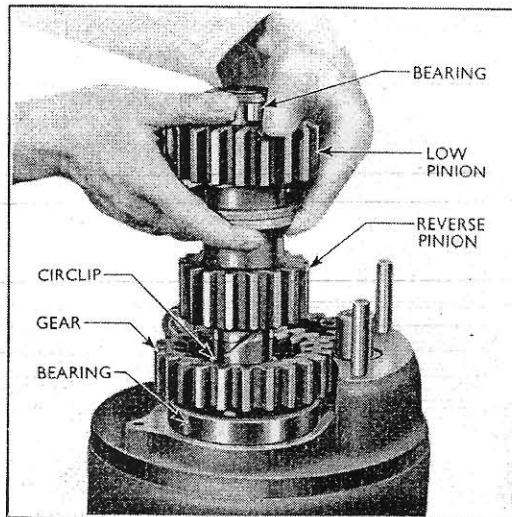

Fig. 21
19. With the selector shaft still in the innermost position, fit the main lower shaft assembly to the housing. (See Fig. 21.) As the assembly is replaced it may be necessary to turn the shaft in the bearing to align the involute dog teeth on the shaft with the internal gear in the primary lower shaft sliding gear.